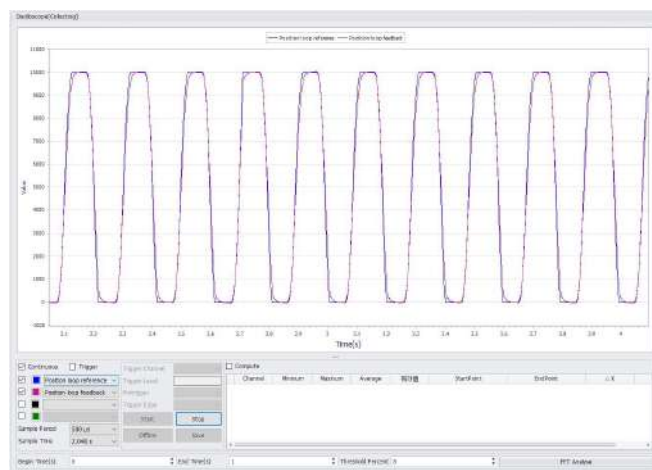

Figure 5-4 Continuous Acquisition
③Sampling method.The default sampling method is single acquisition, you can check "continuous acquisition" and "manual trigger".
■ After "Start ", "Continuous Acquisition" continuously performs the single acquisition operation and sends it to the interface to refresh and display the waveform after the acquisition is completed, as shown in Figure 5-4.